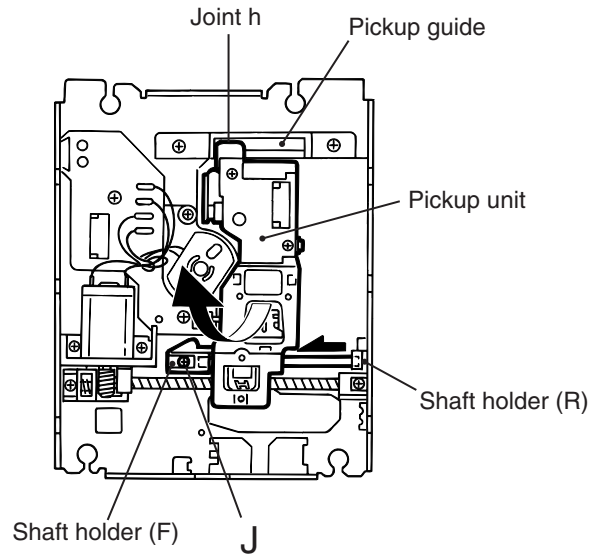

Fig.17
■Removing the pickup unit (See Fig.17)
1. Turn over the traverse mechanism assembly and remove the screw J attaching the shaft holder (F).
2. Move the shaft inward and remove it from the shaft holder (R).